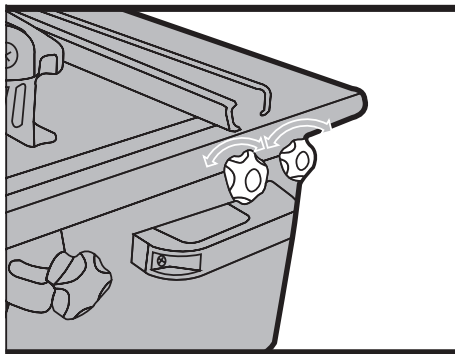

Fig 4
4. MAKING A STRAIGHT CUT (see fig4,5)
Adjust the guide to the desired width from the blade using the scale rules on the table surface for reference. To loosen and adjust, use the four securing knobs (see fig4).